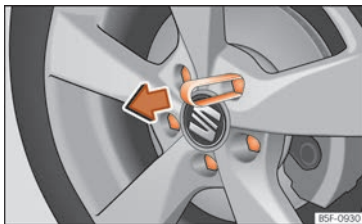

Fig. 61 Pull off the wheel bolt cap.
- Fit the plastic clip (vehicle tools) over the cap until it clicks into place »» **Fig. 61**.